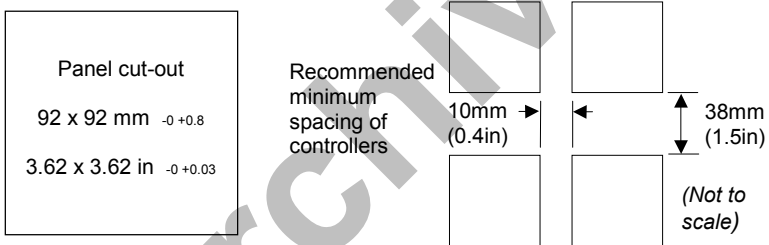

Figure 3-2: Panel Cut-out and Minimum Spacing Requirements
1. Prepare the panel cut-out to the size shown in Figure 3-2. Ensure that there is sufficient spacing between instruments as shown by the minimum dimensions given in Figure 3-2. Ensure also that the controller is not mounted close to any device which is likely to produce a significant amount of heat which may affect the performance of the controller.